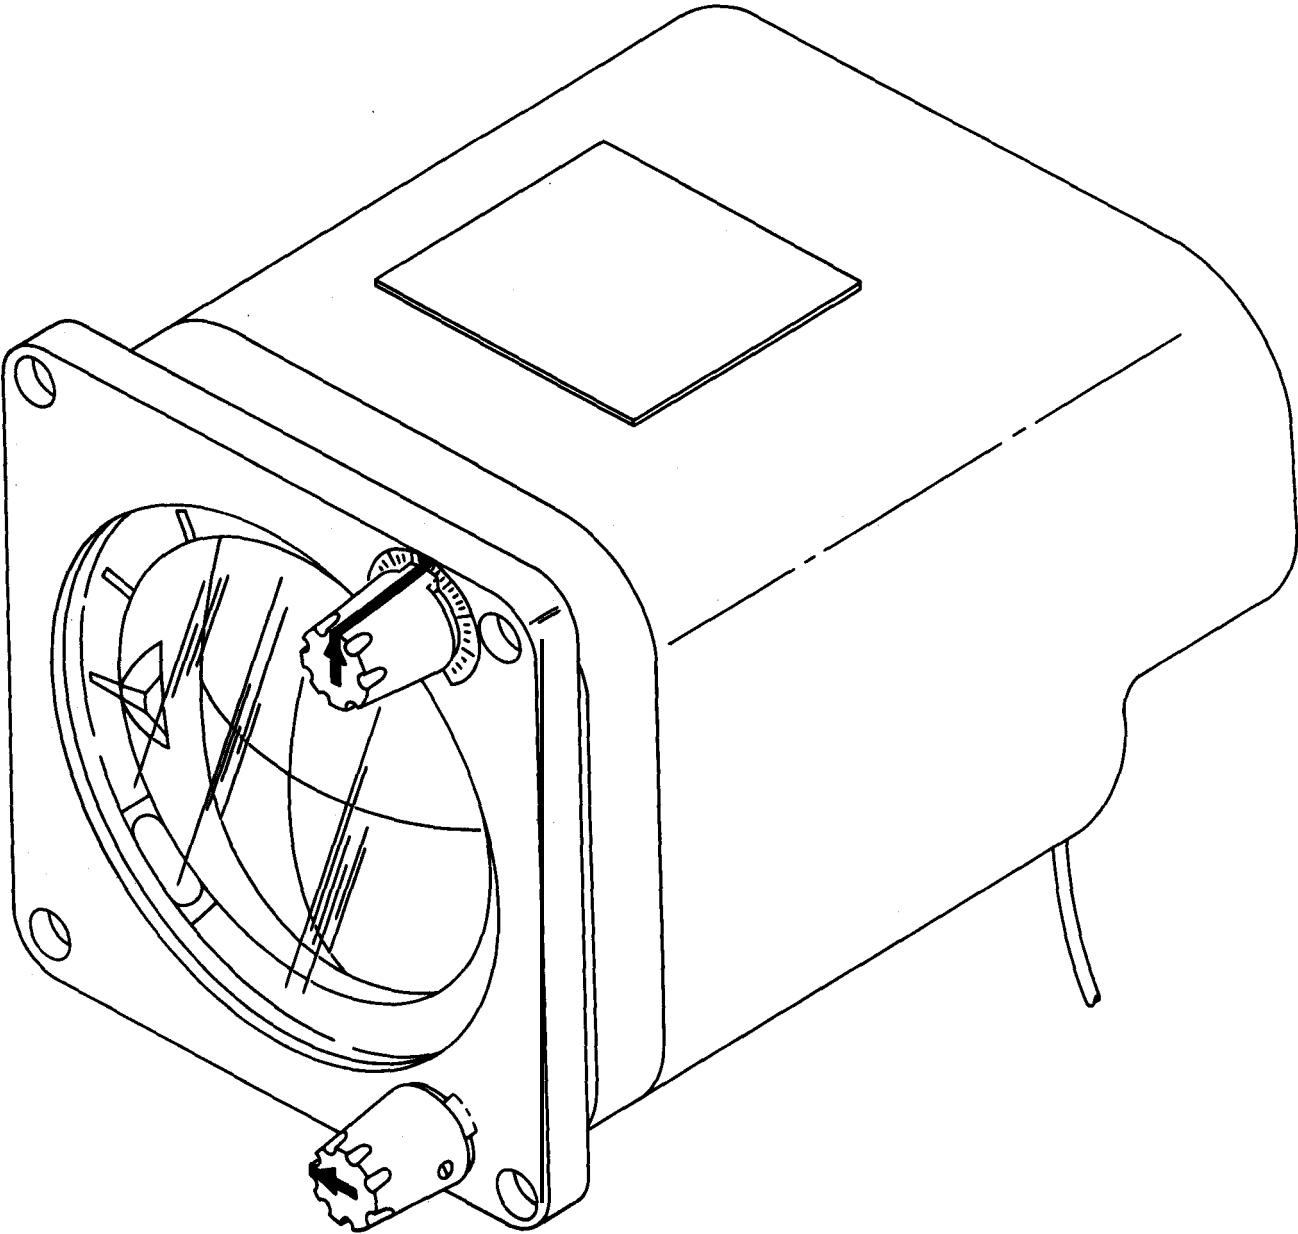

Figure 1-1, Remote Attitude Indtiator, DSA 274.
a. This technical manual comprises overhaul instructions and test procedures for Remote Attitude Indicator, Model DSA 274 (fig. 1-1), manufactured by Consolidated Airborne Systems, Inc., Carle Place, Long Island, New York, Federal Manufacturer's Code 05808.